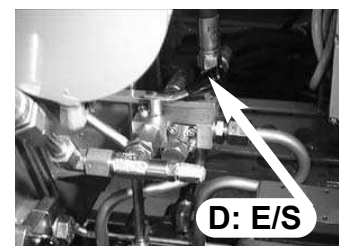

fig. 20b
- Position lever **D** of oil diverter crane-outriggers ( - **E/S**) on **E/S**. Fig. 20b